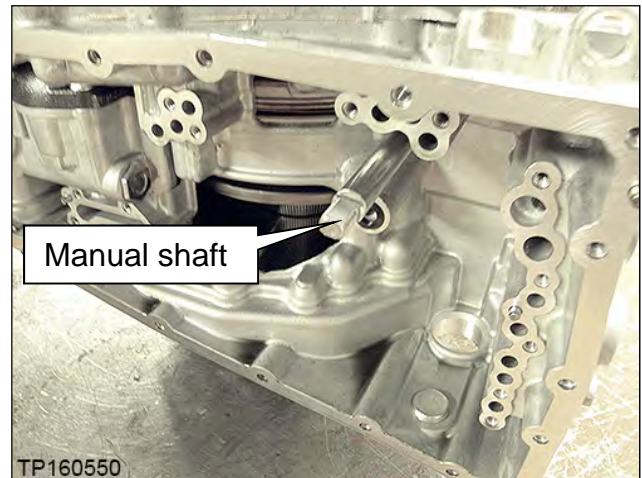

Figure 71
- Use plastic or wood blocks to support the CVT while rotating to prevent contact with the manual shaft and damage to the CVT (Figure 71). The manual shaft is longer than the oil pan mating surface.